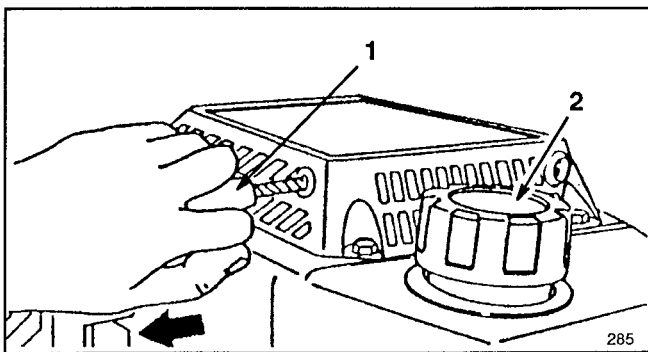

Figure 9
1. CONTROLS—Key switch (key start model), ground speed control, throttle, and blade/self-propelled control bar are on upper handle (Fig. 8). Fingertip starter is on top of engine (Fig. 9).
- 4a. KEY-ELECTRIC STARTING—Move throttle to **N** (CHOKE). Turn key to START and release when engine begins running. When engine starts, remove throttle from **N** (CHOKE) and regulate as desired. If the battery's charge is too weak to start the engine, the engine can be started with the fingertip starter (Fig. 9).